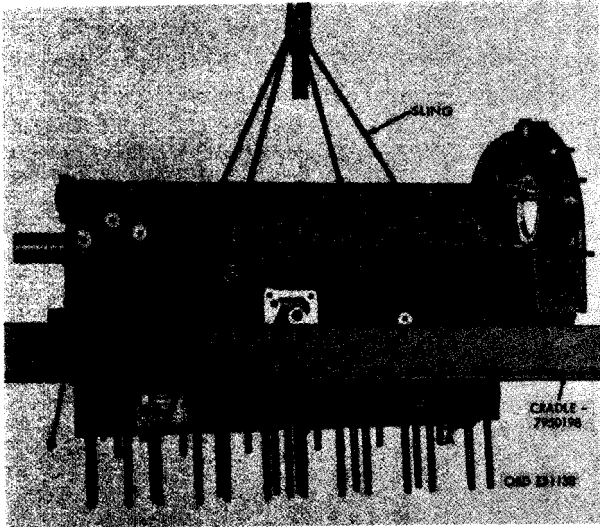

FIGURE 297. REMOVING STRIPPED ENGINE FROM OVERHAUL STAND.
- (1) Figure 297. (A) Remove four 5/8-inch plain nuts, 5/8-inch lock washers, and 5/8 x 2 capscrews and remove one side rail from cradle assembly. (B) Remove overhaul stand and cradle assembly from work area. Reverse the instructions in step A above and install side rail on cradle assembly.